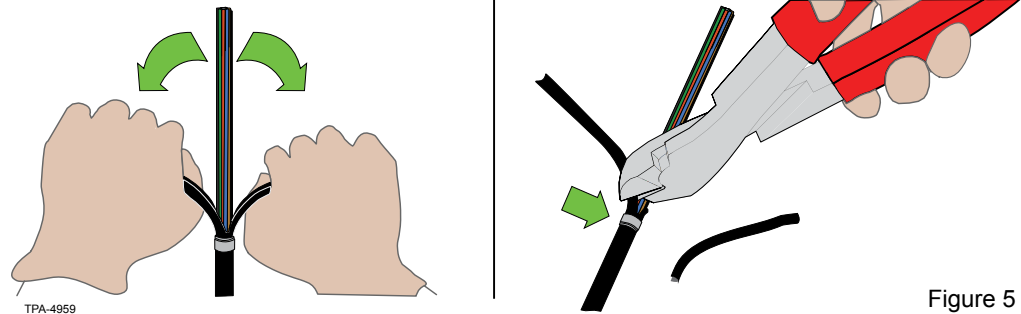

Figure 5
Step 5: Continue to remove the jacket by pulling both sides down to the tape mark and remove the jacket with side-cutter or small snips (Figure 5).